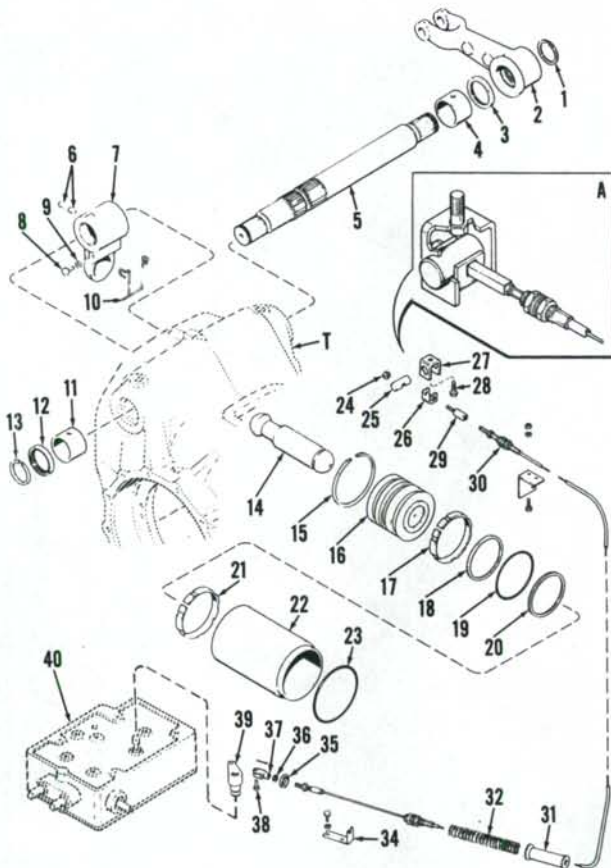

Fig. 278—Exploded view of rockshaft and associated parts contained within transmission housing on Model 2090 and 2290 tractors.
272. R&R AND OVERHAUL. To gain access to hydraulic hitch rockshaft and work cylinder assembly, first disconnect lift links from upper lift arm (2—Fig. 278), then remove pto assembly as
Clean and inspect all parts for excessive wear, scoring, scratches or other damage and renew as necessary. If renewing bushings (4 and 11—Fig. 278), small ID 2.379-2.382 inch (60.427-60.503 mm) bushing (11) installs in right side of transmission housing; large ID 2.754-2.758 inch (69.952-70.053 mm) bushing (4) installs in left side of transmission housing. Install new "O" ring (19) on piston (16) and the two back-up rings (18 and 20) with concave sides toward "O" ring (19). Install new wear rings (17 and 21) on piston. Use new "O" ring (23) and install cylinder liner (22), small OD first, into transmission cavity, and secure with snap ring (15). Install new seals (3 and 12) with lips toward inside. Reinstall rockshaft (5), small end first, through left side bushing. Make certain all timing marks align on power arm (7) to rockshaft and lift arms (2) and rockshaft. Reinstall draft sensing follow-up cable and adjust as outlined in ADJUSTMENTS paragraphs of HYDRAULIC HITCH SYSTEM if necessary. Balance of reassembly is reverse of removal.